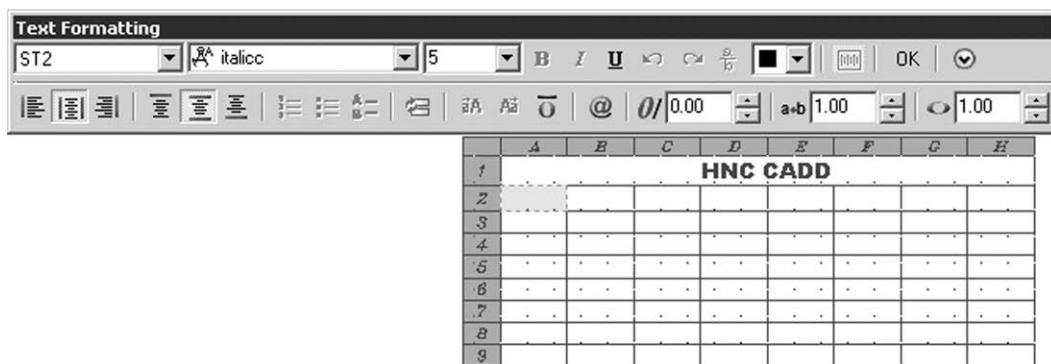

Figure 24.5 The Text Formatting bar for the first header cell.
c) Text Formatting bar displays: ST2, italiccc, 5 – Figure 24.5